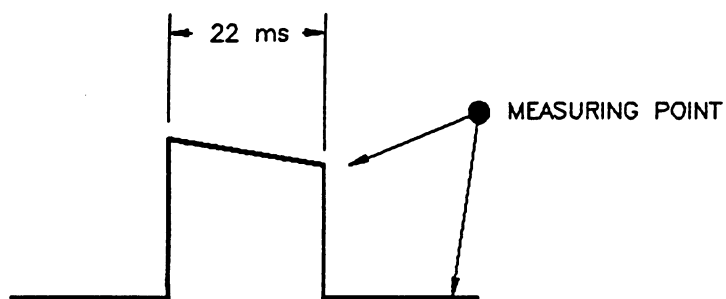

FIGURE 9.3
- 17.2 Set the pacer rate for 100 PPM and the power current for 60 ma, 36.0 volts ± 6.0 volts should be observed on the oscilloscope at the measuring point shown below in Figure 9.3. The width of the pulse should be 22 ms ± 2 ms.